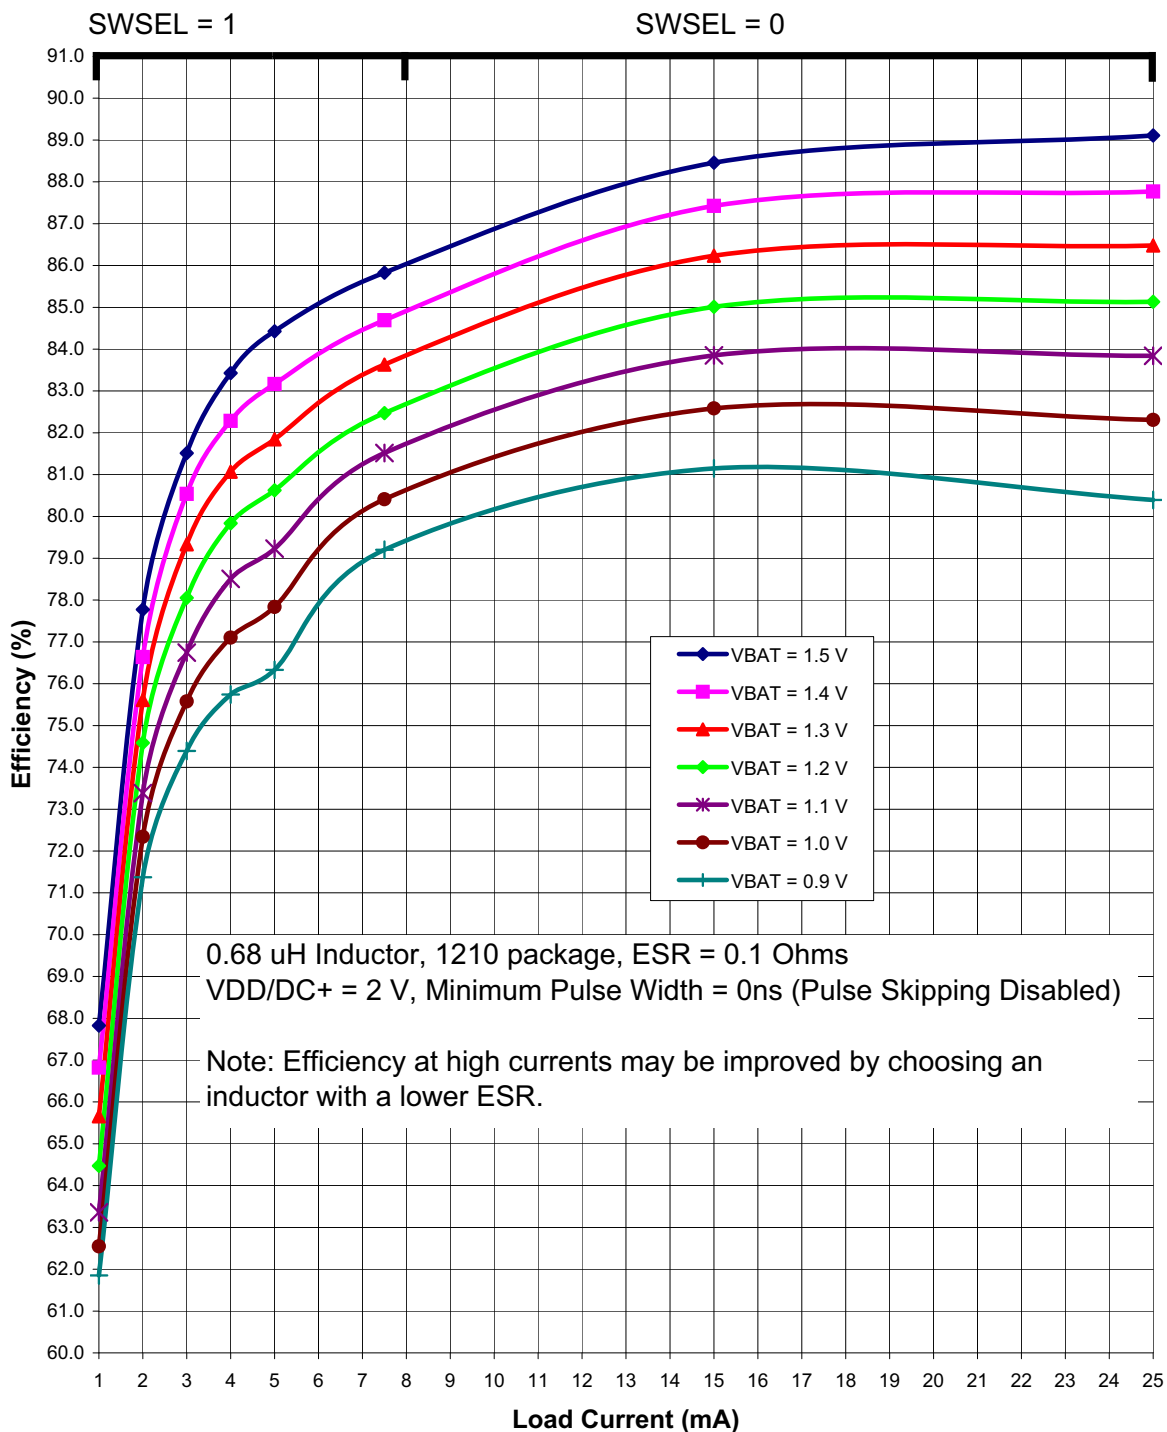
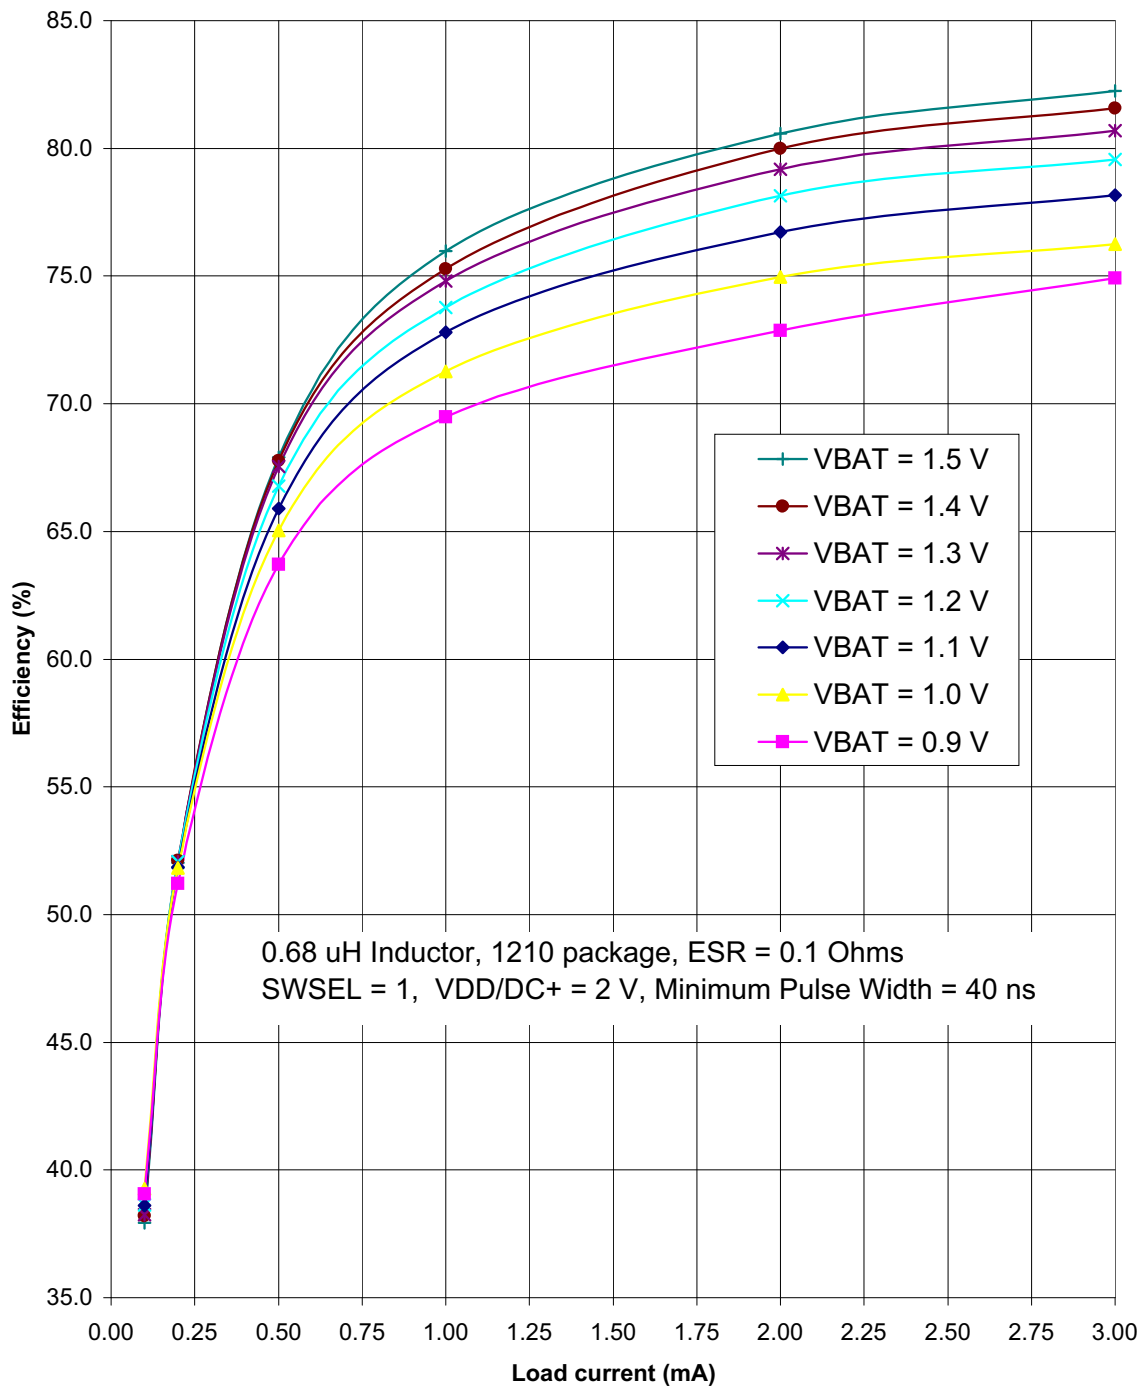

Figure 4.3. Typical DC-DC Converter Efficiency (High Current, VDD/DC+ = 2 V)
Figure 4.5. Typical DC-DC Converter Efficiency (Low Current, VDD/DC+ = 2 V)
The DC-DC Converter Efficiency can be estimated using Figure 4.3–Figure 4.5.
<ol style="list-style-type: none"> <li>Based on device characterization data; Not production tested.</li> <li>SYSClk must be at least 32 kHz to enable debugging.</li> <li>Digital Supply Current depends upon the particular code being executed. The values in this table are obtained with the CPU executing an "sjmp \$" loop, which is the compiled form of a while(1) loop in C. One iteration requires 3 CPU clock cycles, and the Flash memory is read on each cycle. The supply current will vary slightly based on the physical location of the sjmp instruction and the number of Flash address lines that toggle as a result. In the worst case, current can increase by up to 30% if the sjmp loop straddles a 64-byte Flash address boundary (e.g., 0x007F to 0x0080). Real-world code with larger loops and longer linear sequences will have few transitions across the 64-byte address boundaries.</li> <li>Includes oscillator and regulator supply current.</li> <li>IDD can be estimated for frequencies ≤14 MHz by simply multiplying the frequency of interest by the frequency sensitivity number for that range, then adding an offset of 90 μA. When using these numbers to estimate IDD for &gt;14 MHz, the estimate should be the current at 25 MHz minus the difference in current indicated by the frequency sensitivity number. For example: VDD = 3.0 V; F = 20 MHz, IDD = 4 mA – (25 MHz – 20 MHz) x 0.102 mA/MHz = 3.5 mA assuming the same oscillator setting.</li> <li>The supply current specifications in Table 4.2 are for two cell mode. The VBAT current in one-cell mode can be estimated using the following equation:  <math display="block">\text{VBAT Current (one-cell mode)} = \frac{\text{Supply Voltage} \times \text{Supply Current (two-cell mode)}}{\text{DC-DC Converter Efficiency} \times \text{VBAT Voltage}}</math> <p>The VBAT Voltage is the voltage at the VBAT pin, typically 0.9 to 1.8 V.                      The Supply Current (two-cell mode) is the data sheet specification for supply current.                      The Supply Voltage is the voltage at the VDD/DC+ pin, typically 1.8 to 3.3 V (default = 1.9 V).                      The DC-DC Converter Efficiency can be estimated using Figure 4.3–Figure 4.5.</p> </li> <li>Idle IDD can be estimated by taking the current at 25 MHz minus the difference in current indicated by the frequency sensitivity number. For example: VDD = 3.0 V; F = 5 MHz, Idle IDD = 2.1 mA – (25 MHz – 5 MHz) x 0.079 mA/MHz = 0.52 mA.</li> <li>Internal LFO only available on 'F912 and 'F902 devices.</li> <li>Ability to disable VBAT supply monitor only available on 'F912 and 'F902 devices.</li> </ol>